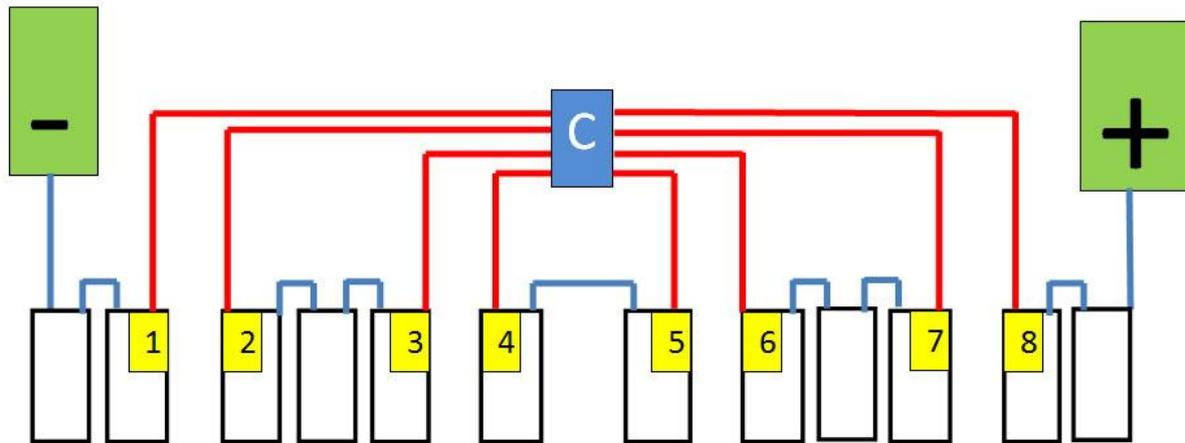

Figure 13: Single String 12 panel (1 row of 12) RSIA2-40-3-12-P
- 3 Confirm you have correct RSI (C = RSIA2-40-3-12-P) as per Figure 13
- 7 Connect red leads marked (1-8) as per Figure 13. All terminals on RSIA2 are the correct polarity and must not be changed (Note existing blue connecting wires between panels remain)